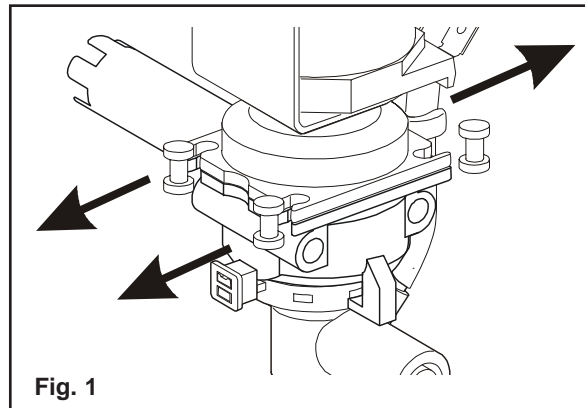

Fig. 1
2. Unclip the breather tube from the solenoid (Fig. 1).
3. Remove 4 plastic clips. (Fig. 1)